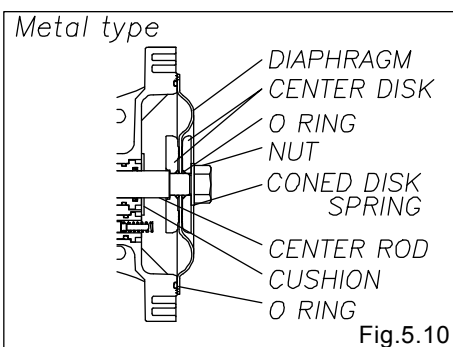

Fig.5.10
- Attach O ring into the grooves on both sides of the body. [Fig.5.10] [Fig.5.11]